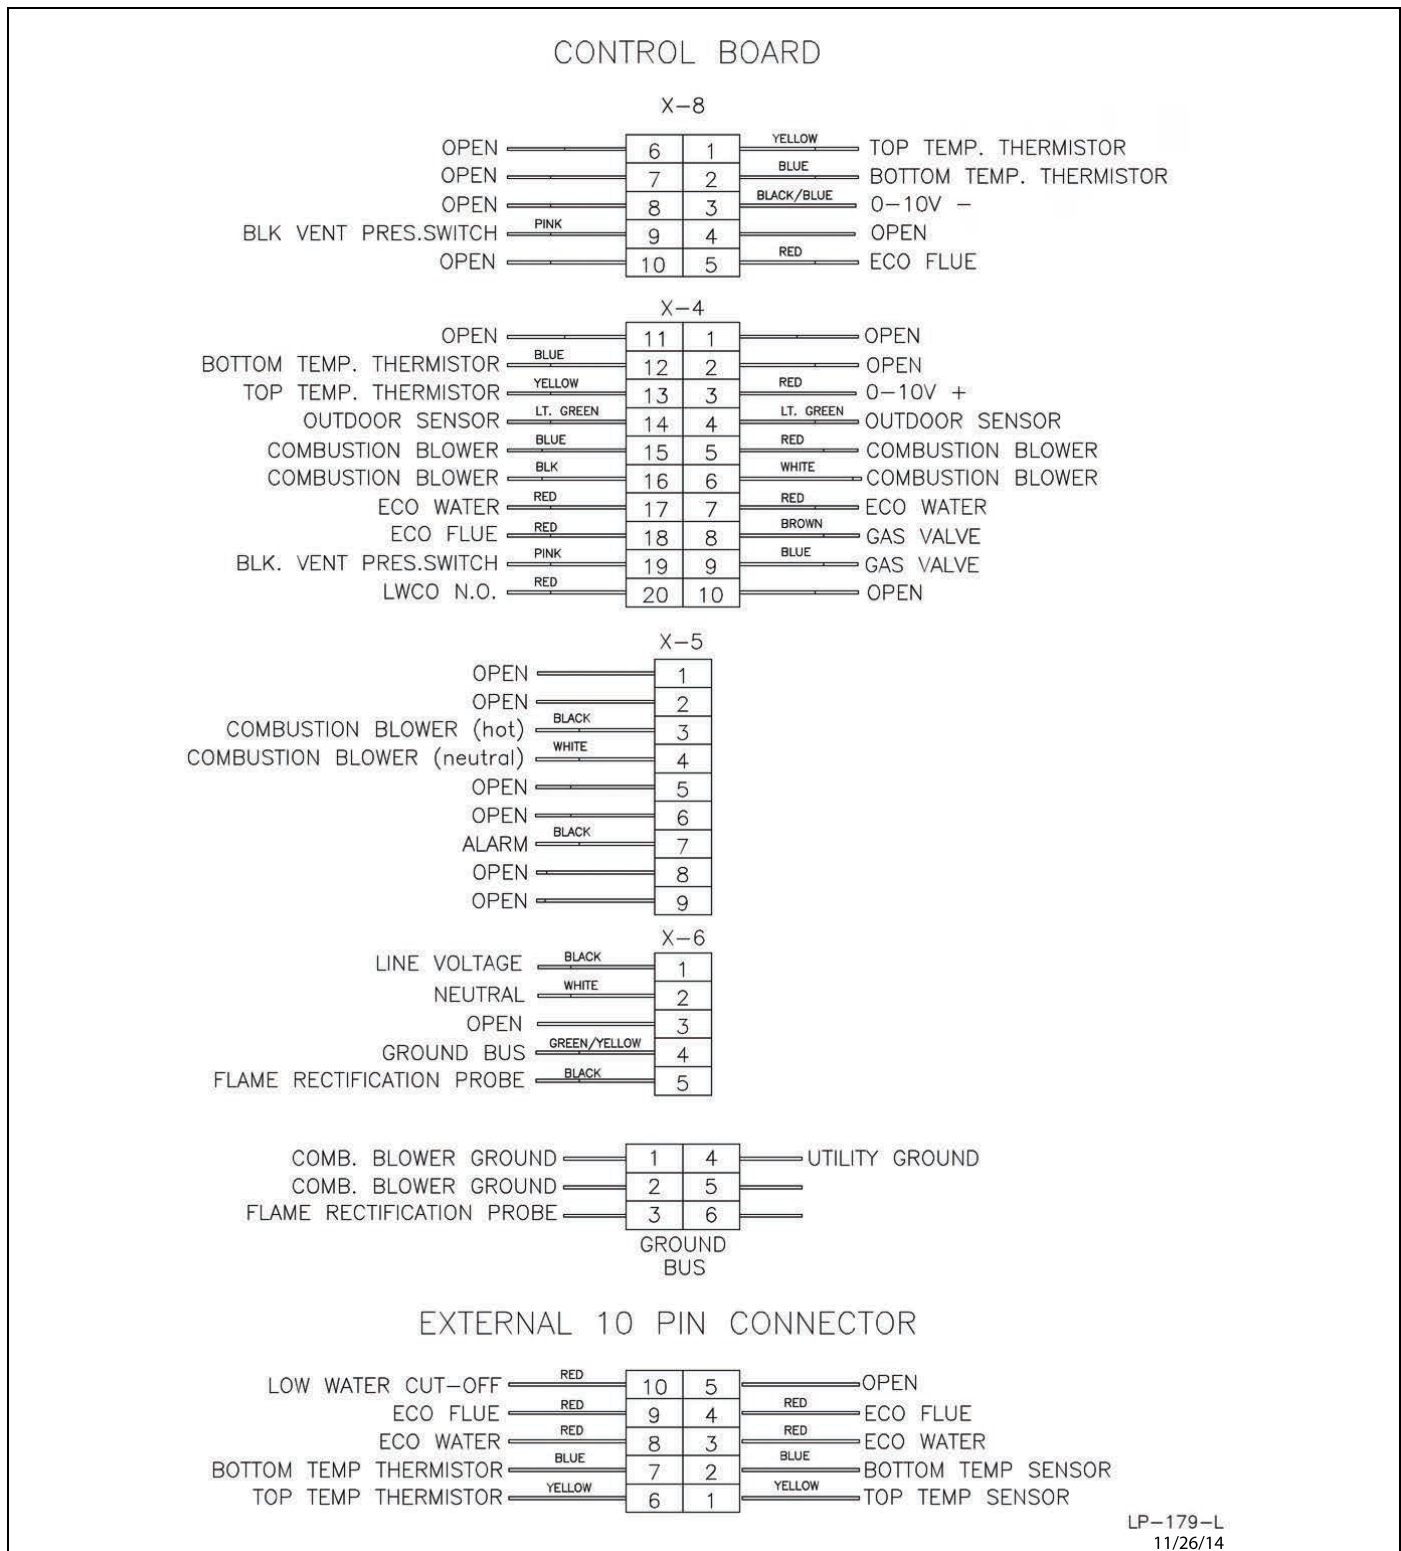

Figure 25 - Control Board Wiring
5. The National Fuel Gas Code (NFPA 54) requires that a sediment trap (drip leg) be installed in the gas line on appliances not so equipped. The drip leg must be accessible, a minimum of 3" in length, and not subject to freezing conditions. See Figure 25.